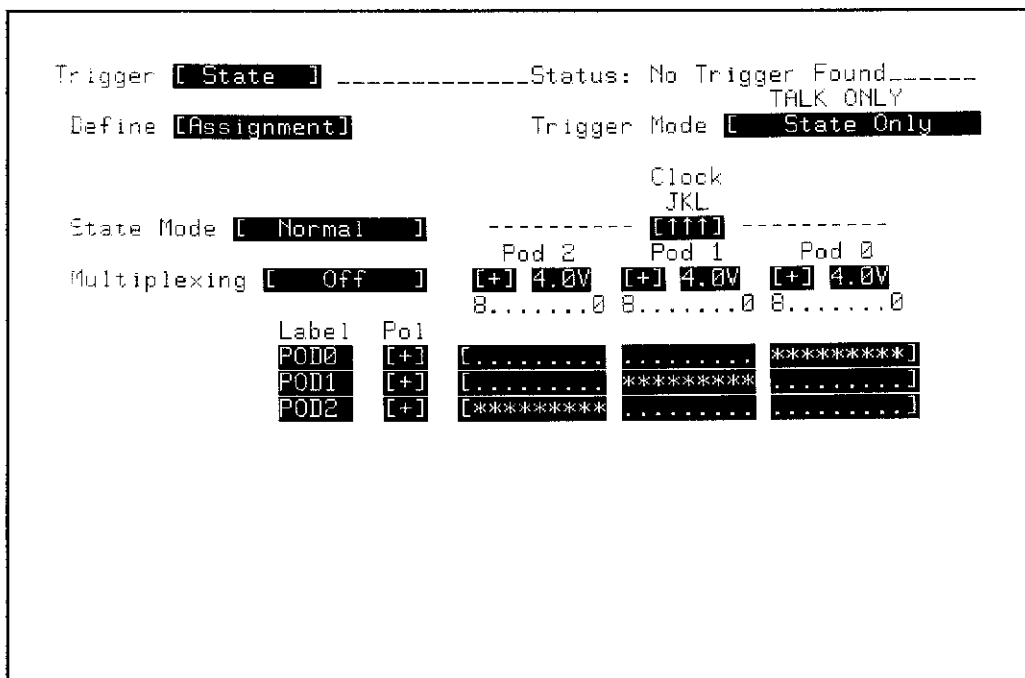

Figure 3-44. TRIGGER State / Define [Assignment] Menu
3. Configure the TRIGGER State / Define [Assignment] menu as shown in figure 3-44.
22. Reconfigure the TRIGGER State/Define [Assignment] menu in figure 3-44 with thresholds of -4.0 V.